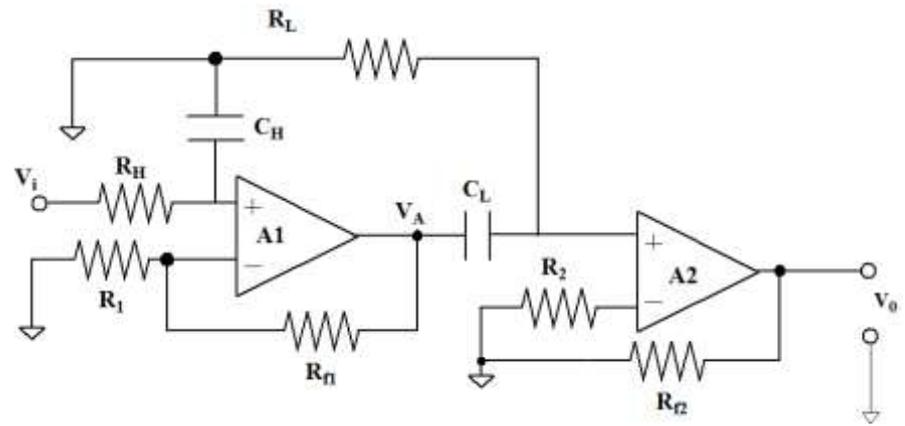

Fig. Q 3A
- 3A. Derive the mathematical model of a band pass active filter depicted in **Fig. Q 3A**. Also, calculate its lower and upper cut off frequencies along with the voltage amplification factor if the values of the passive components are given below: (03)